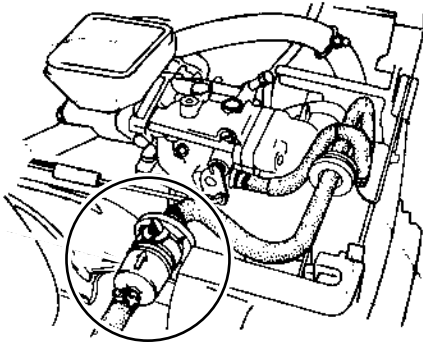

Figure 18. Honda Fuel Filter
1. Replace the engine fuel filter (Figure 18) every 200 hours.